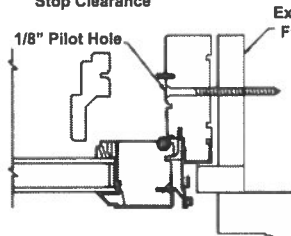

Fig 10
4. Making sure that the unit is square, level and plumb, drive four #8 x 3" screws provided through the side jamb approximately 3" from the top and bottom corners. Do not overtighten screws. See Figures 10 & 11.